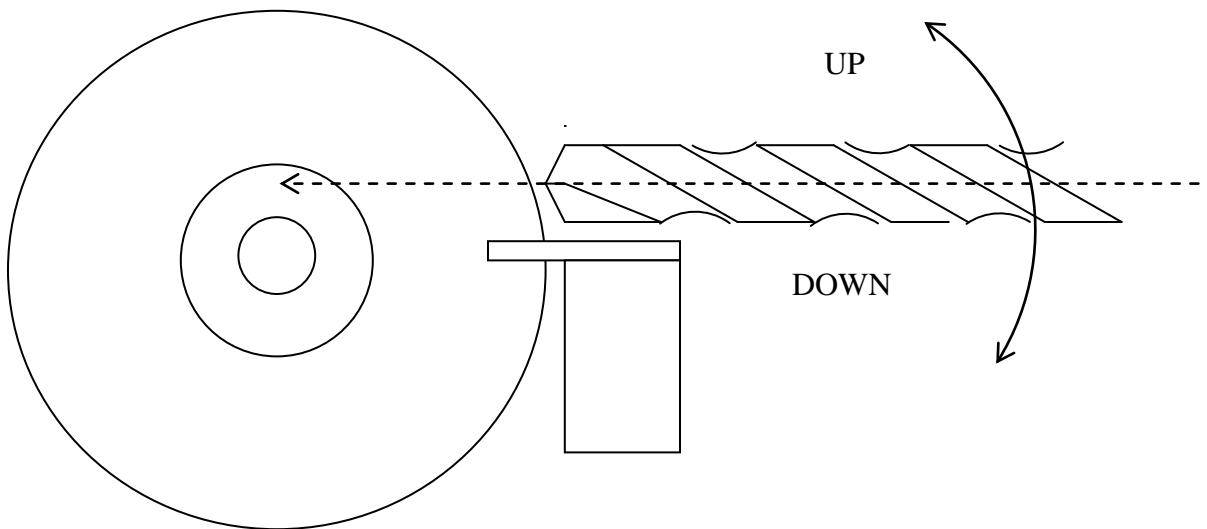

Figure F-4
5. The centerline of the drill should point slightly above the center of the grinding wheel as in figure F-4.
Not enough lip clearance.-----	Move shank towards DOWN (Fig. F-4) at start of grind.
Too much lip clearance.-----	Move shank towards UP (Fig. F-4) at start of grind.